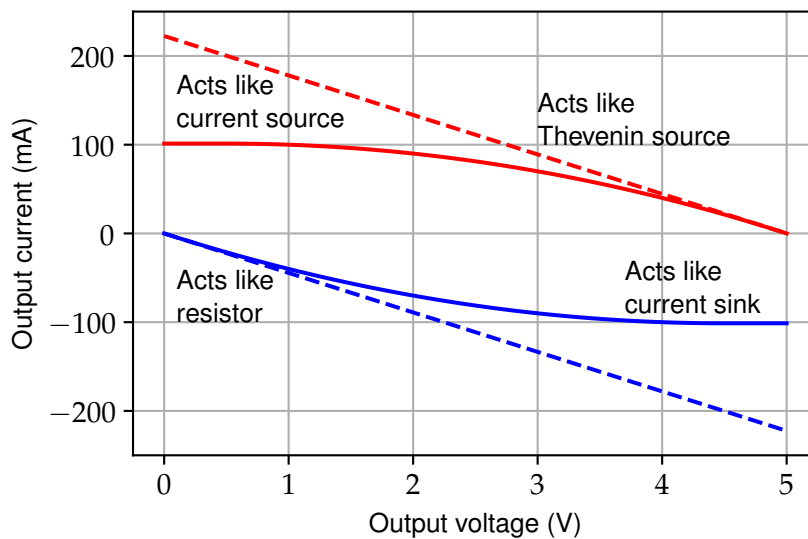

Figure 6.5: Example CMOS output characteristic curves: (red) 'high'; (blue) 'low'.
MOSFETS are non-linear and the output resistance of CMOS varies with current. Thus the IV curve is more complicated (see Figure 6.5). Note, the IV curve does not imply that the device can provide the specified current continuously due to thermal reasons.
1. With reference to Figure 6.5, when it first switches from a low output to a high output does it behave more like a current source or voltage source?
2. With reference to Figure 6.5, when it first switches from a high output to a low output does it behave more like a current source or voltage source?
3. Consider Figure 6.5, what is the open-circuit output voltage in the high output state?
4. Consider Figure 6.5, what is the short-circuit output current in the low output state?
5. Consider Figure 6.5, what is the output voltage in the high output state if a $50\ \Omega$ load is connected to ground?
6. Consider Figure 6.5, what is the output voltage in the high output state if a $100\ \Omega$ load is connected to ground?
7. Consider Figure 6.5, what is the output voltage in the low output state if a $50\ \Omega$ load is connected to ground?
8. Consider Figure 6.5, what is the output voltage in the low output state if a $50\ \Omega$ load is connected to 5 V?
9. Consider Figure 6.5, what is the output voltage in the high output state if a $50\ \Omega$ load is connected to 2.5 V?
17. Consider Figure 6.5, what is the minimum output resistance when the PMOS transistor is on?
18. Consider Figure 6.5, what is the minimum output resistance when the NMOS transistor is on?